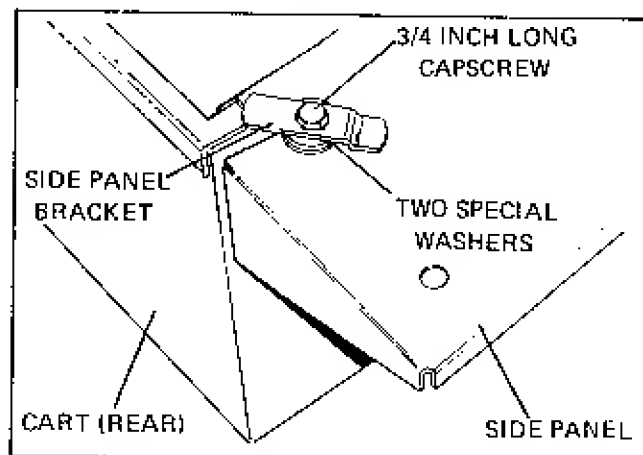

FIGURE 21
7. Secure bracket to inside rear of side panel with two special washers (above side panel), a flat washer (under side panel), a 3/4 inch long cap screw, and locknut (Figure 21). Position side panel bracket at angle illustrated. Repeat procedure for remaining rear corner.